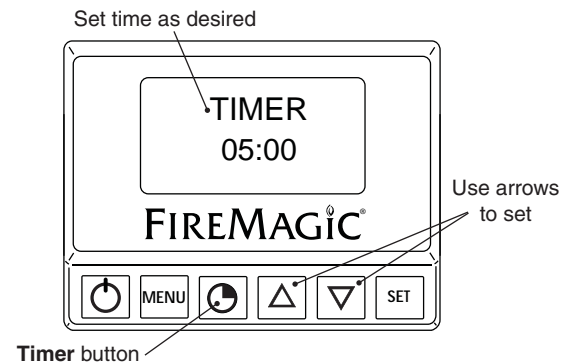

Fig. 20-1 Timer screen
1. Press the timer button. Use the arrows to set the desired amount of time (see Fig. 20-1.)